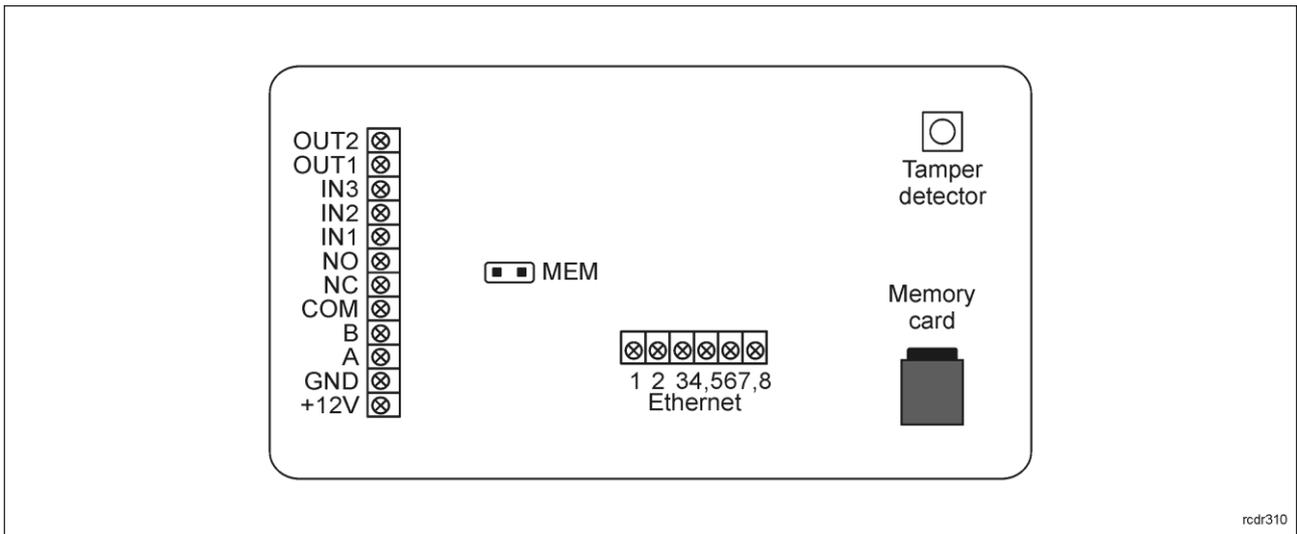
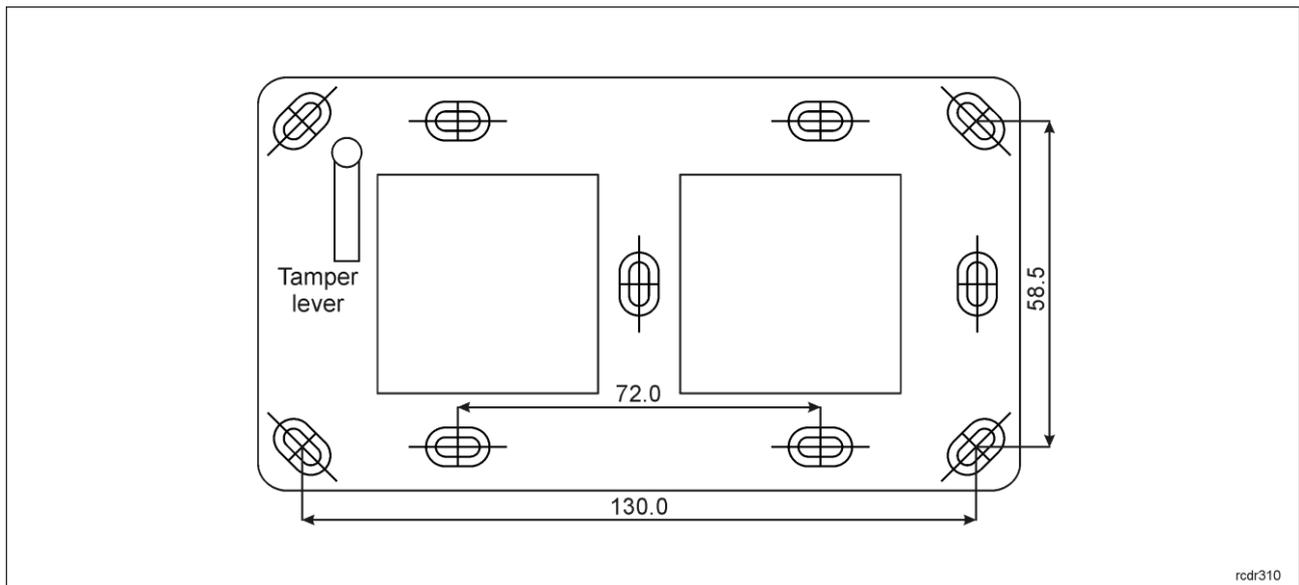

Fig. 15 Internal side of the front panel
Fig. 16 Back panel
Moreover, default function key icons, splash screen, and screensaver can be replaced using a device memory card. Four new icons can be copied to the ICONS folder on the memory card (fig. 15) and they must be named as icon_001.bmp, icon_002.bmp, icon_003.bmp, and icon_004.bmp. The splash screen file in the same folder must be named as icon_000.bmp. Screensaver graphics must be named as scrnsvr.bmp and it must be copied to the main folder of the memory card instead of the ICONS folder. Icon files must be in bmp format, 60x60 pixels dimensions, and with 24-bit colour depth. Splash screen and screensaver pictures must be in bmp format, 320x240 pixels dimensions, and with 24-bit colour depth.
Built-in tamper (sabotage) detector enables detection of unauthorized opening of device's enclosure as well as detachment of the enclosure from wall. The detector is internally connected to the MCT88M-IO fourth input. It does not require low level configuration (RogerVDM) or any additional installation arrangements but it is essential to mount the terminal in such way that tamper lever (fig.16) would properly press the detector (fig. 15). The detector requires high level configuration which consists in assignment of the function [133] *Tamper Toggle* on the level of a *Main Board* of a controller in VISO software navigation tree.
- The back panel should be mounted with included screws according to fig. 16 in such way as the tamper lever would firmly press the tamper switch.
1. Place jumper on MEM contacts (fig. 15).